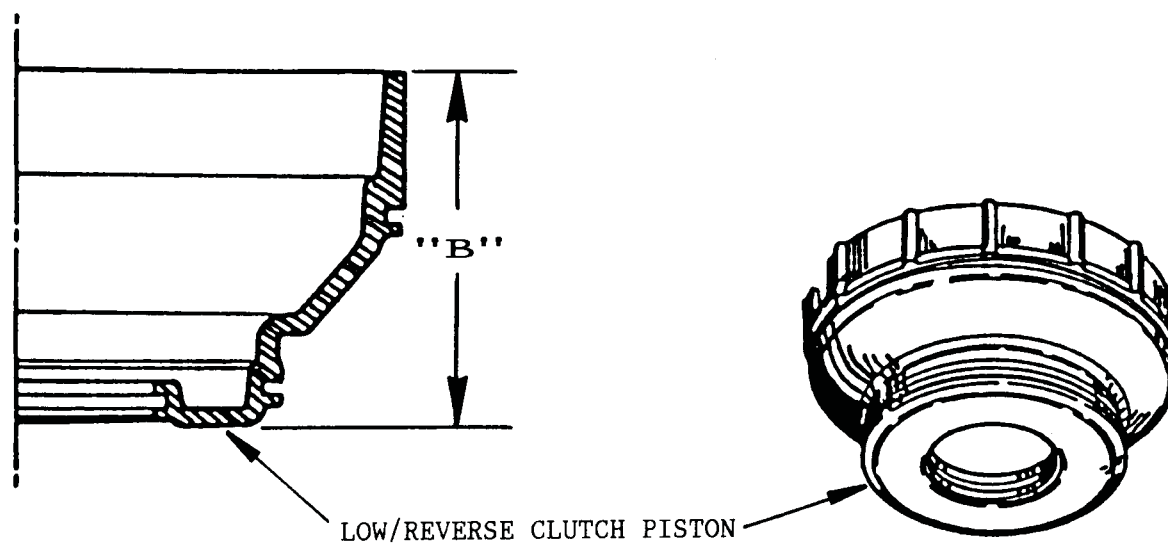

Figure 81
1. IT IS MANDATORY THAT THE LOW/REVERSE PISTON, AND THE LOW/REVERSE SUPPORT BE MATCHED. THEY WILL NOT INTERCHANGE BETWEEN MODEL YEARS. REFER TO FIGURE 81 TO IDENTIFY PARTS FOR PROPER BUILD CONTENT BEFORE THE LOW/REVERSE PISTON IS INSTALLED
REQUIRES LOW/REVERSE PISTON 8681725 OR 8685550 (SEE FIGURE 81).
REQUIRES LOW/REVERSE PISTON 8663888 (SEE FIGURE 81).